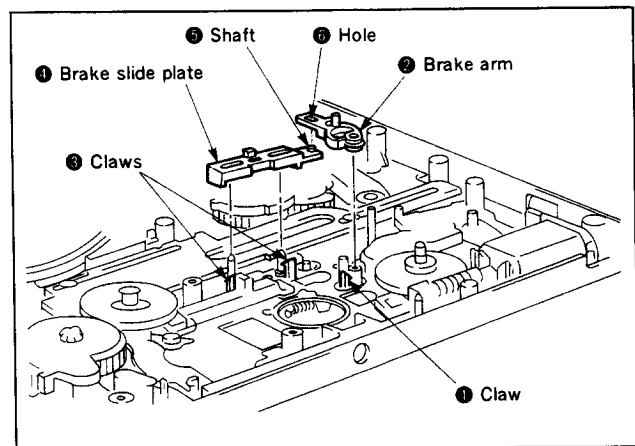

Fig. 3-39.
**3-33. BRAKE ARM, BRAKE SLIDE PLATE (Fig. 3-39)**
- 3) Disengage the claw ①, then pull out the brake arm ②.
- 4) Disengage the two claws ③, then pull out the brake slide plate ④.
- Insert the shaft ⑤ into hole ⑥.